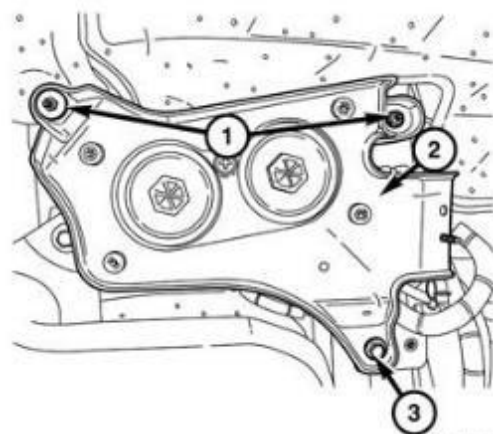

Figure 25 - Fuel Filter/Water Separator
61. Remove the nuts (1), bolt (3), and the fuel filter/water separator assembly (2) (Figure 25).
72. Install the fuel filter/water separator assembly (2) to the vehicle. Tighten the two nuts (1), and one bolt (3) to 20 N·m (15 ft. lbs.) (Figure 25).